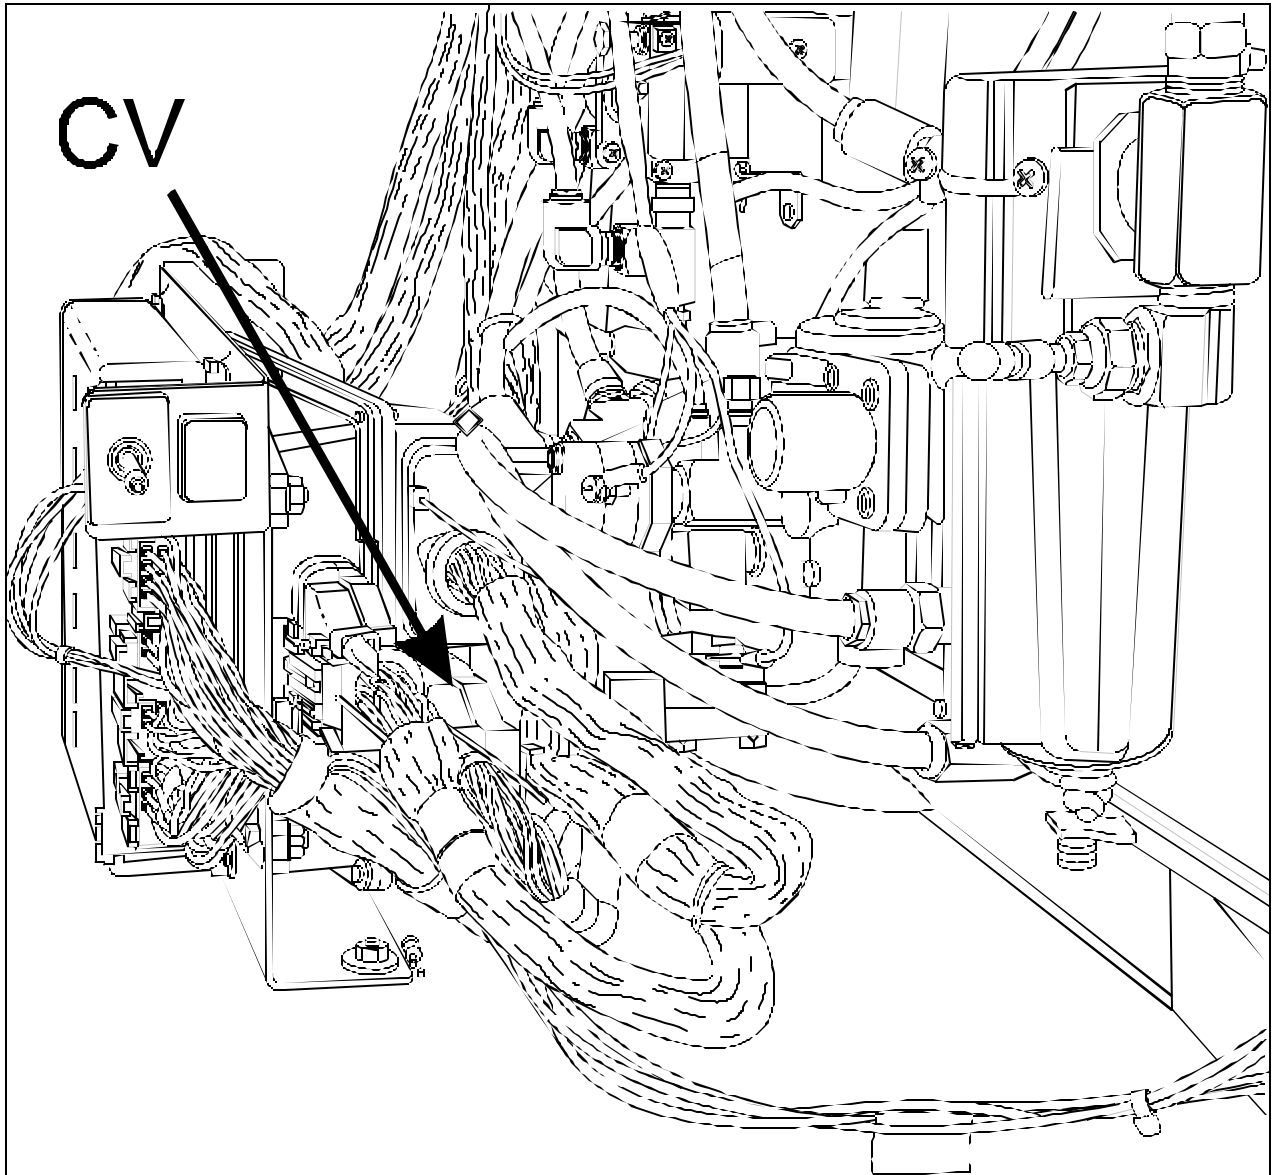

FIGURE 1: FRONT SERVICE COMPARTMENT (TYPICAL)
- ? In the front service compartment, locate connector CV on the transmission ECU (see fig 1);
1. In the front service compartment, locate connector CV on the transmission ECU (see fig 1);